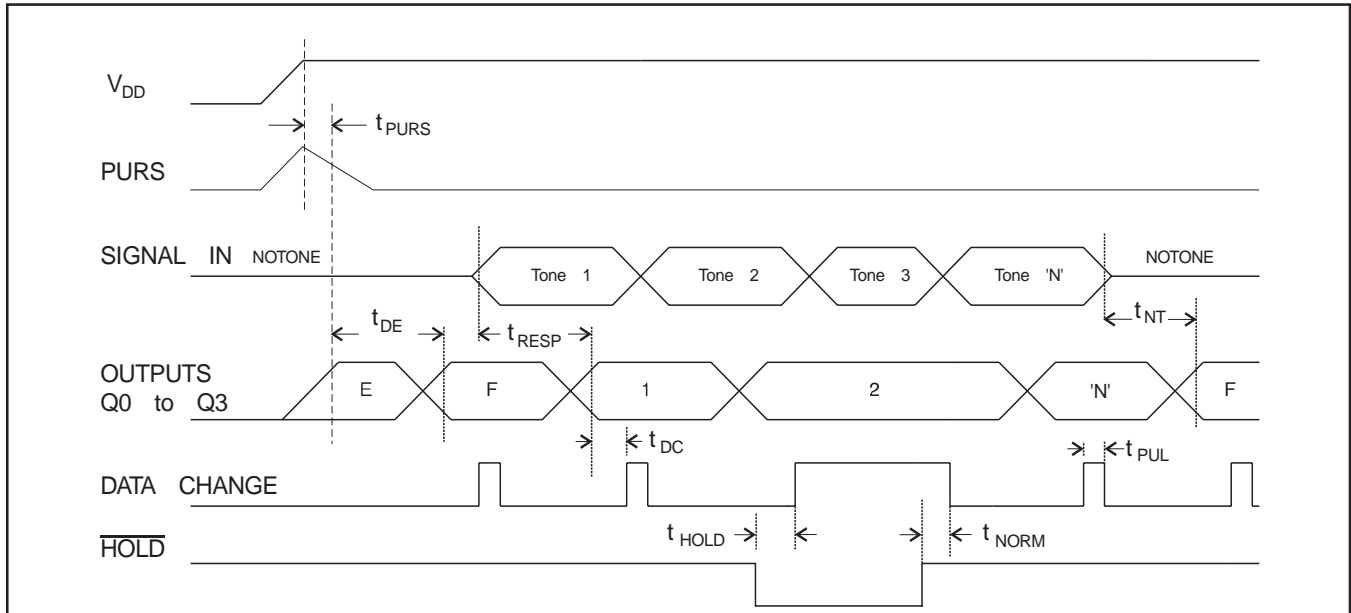

Figure 3 - Timing with the Chip Select Input Held "Low";  $\overline{CS}$  and  $\overline{IRQ}$  are not used
12	Hold: An input to control the Output Latch condition; employed in combination with the Data Change output to facilitate, if required, Interrupt and/or handshake operations with a $\mu$ Processor. With Hold placed "Low", with a tone input, the Data Change output will be held "High" at the next data change, and the current output code is locked in the Output Latches regardless of any changes to the input signal. The output code remains as held until this input is returned "High" (see Figure 3). While this input is "High" the output data, Q0 - Q3, cycles normally with the input audio. This pin has an internal 1.0M $\Omega$ pullup resistor.
15	CS: Chip Select- A controlling function. When held "High" the Data Outputs Q0, Q1, Q2 and Q3 and the Data Change output are disabled. When taken "Low" the Data Outputs Q0, Q1, Q2 and Q3 and the Data Change output are enabled; the Interrupt Request (IRQ) is reset ("High") when CS is taken "Low". See Figures 3 and 4.
*With CS Low - Figure 3*
Decoder Timing - Figures 3 and 4